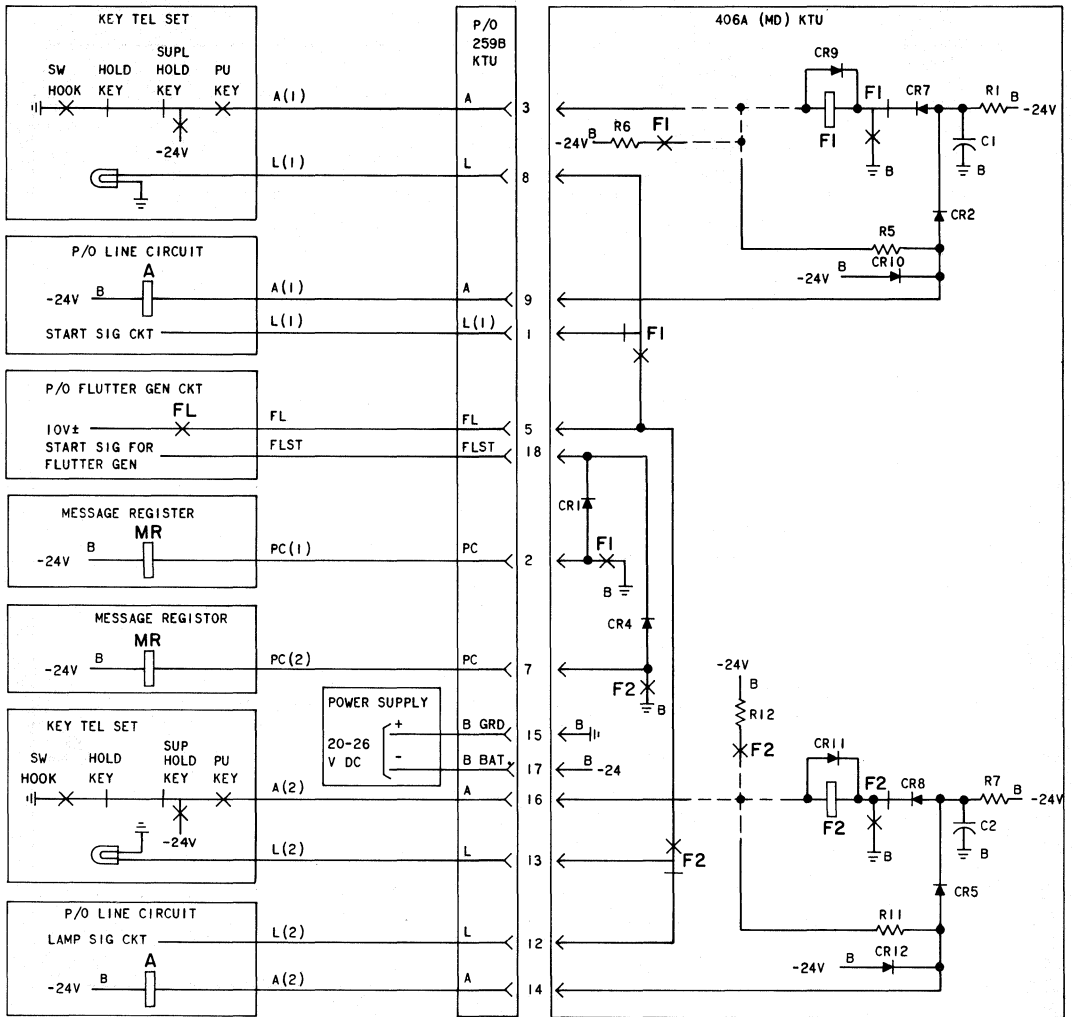

Fig. 4—Condensed Functional Schematic of 406A (MD) KTU (Supplementary Hold Detector Circuit)
2.02 The 406A (MD) KTU (Fig. 4) is a 4-inch, 18-contact unit which must be used with a 259B or 272A KTU. The 406A KTU has been replaced by the 429A KTU (see 2.09 for features) which conforms to standard contact lead configuration.